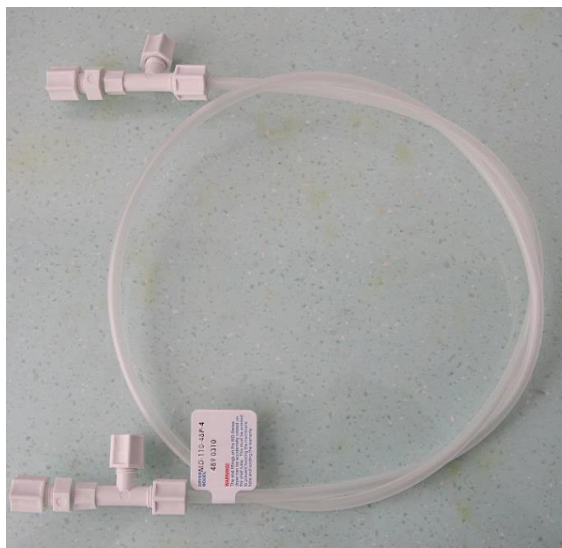

Figure 9
4.4.5. Membrane dryer (Figure 9)
The material left after the sample combustion in the high temperature pyrolysis tube going through the membrane dryer to remove the vapor in the sample before reaction, please refer to Figure 9